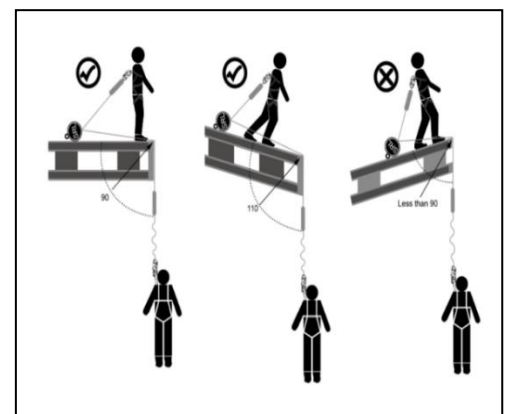

Figure 6: Allowable angles of redirection for the SRD-LE.
- The allowable angle of redirection of the lifeline portion of the SRD-LE at the edge over which a fall might occur (measured between the two sides formed by the redirected lifeline) shall be at least 90° (see Figure 6).
- The anchor point shall be situated at the same height as the edge at which a fall may occur or above the edge. Anchor points below the edge are dangerous because they cause the lifeline to redirect at an angle sharper than 90° (see Figure 6).